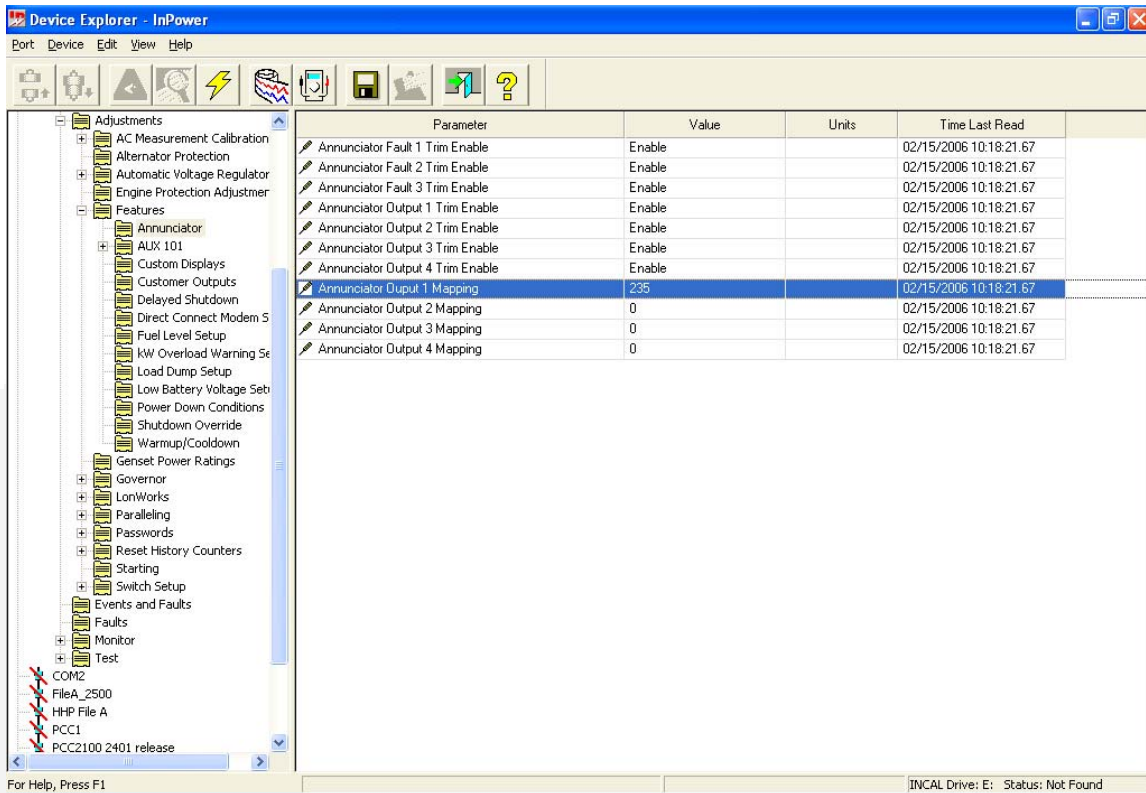

FIGURE B-2. MAPPING THE ANNUNCIATOR OUTPUTS
Any event can be mapped to one of the four relay outputs of the Universal Annunciator. If it is desired for relay output 1 of the annunciator to be active after a Low Coolant Fault (235), it is necessary to enter 235 into the “Annunciator Output 1 Mapping” (see Figure B-2).